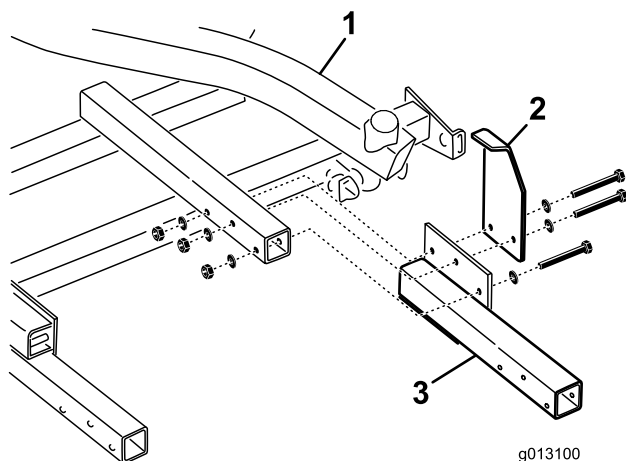

Figure 3
3. Loosely install the right arm and the stop to the attachment frame using 1 bolt (7/16 x 3 inches), 2 bolts (7/16 x 3-1/4 inches—installed through the stop), 3 locknuts (7/16 inch), and 6 washers (Figure 3).